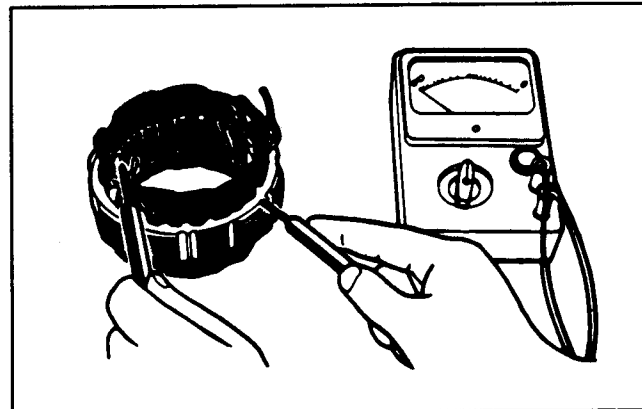

Figure 41
13. Check for continuity between each lead wire and stator core (Fig.41). Replace the stator coil if there is continuity.